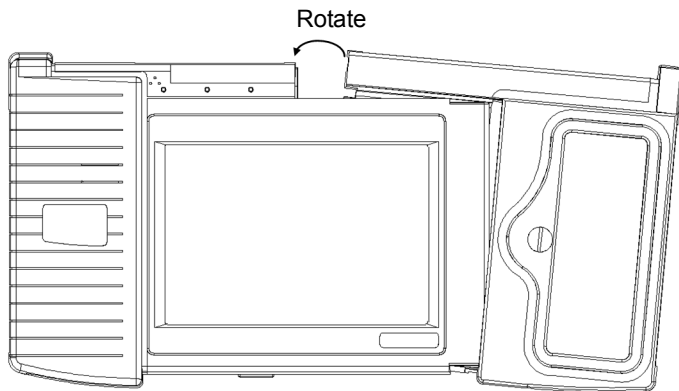

Figure 9 Rotating the application module
- 6 Gently rotate the application module into a parallel position with the UIM (see Figure 9 on page 29).